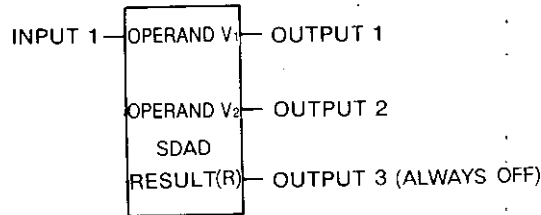

Fig. 5.42 SDAD General Form
(2) Form
- Fig. 5.42 shows the form of signed double-precision addition (SDAD).